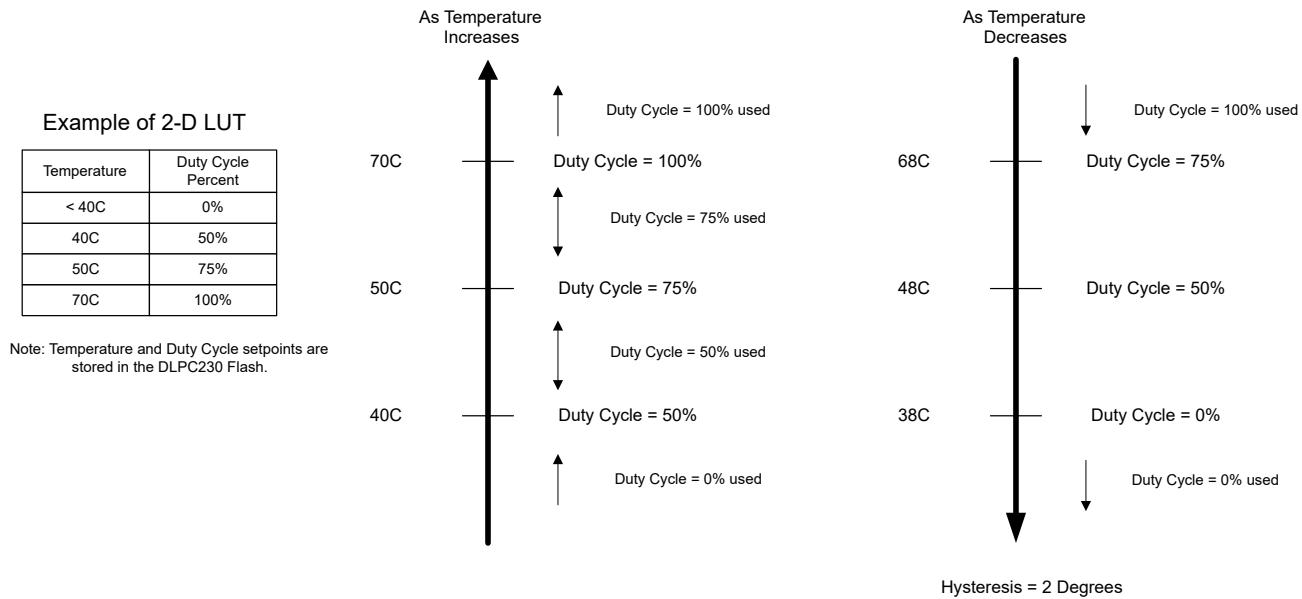

Figure 5-21. PWM Duty Cycle Temperature Management Example
Some applications have side effects at higher temperatures and require active cooling solutions such as fans. For systems that use a variable-speed fan controlled by a PWM signal, the DLPC230-Q1 offers a PWM Temperature Management Function. It is intended to self-monitor a system temperature level and automatically update the fan speed via PWM duty cycle. This implementation avoids over-design and reduces noise level of a fixed-speed fan. This function also supports hysteresis to avoid switching back and forth between temperature regions and duty cycle levels. This hysteresis is applied only as the temperature decreases. A 2-Dimensional LUT stored inside DLPC230 flash dictates transition temperatures and PWM duty cycle for this automated function. These parameters, which include enable/disable, temperature thresholds, PWM Duty Cycle percent, PWM GPIO pin, and hysteresis, must be specified in the Automotive DLP Composer(TM) tool. Figure 5-21 shows an example use case. See PWM temperature management commands 35h-39h, starting with Section 8.2.33.